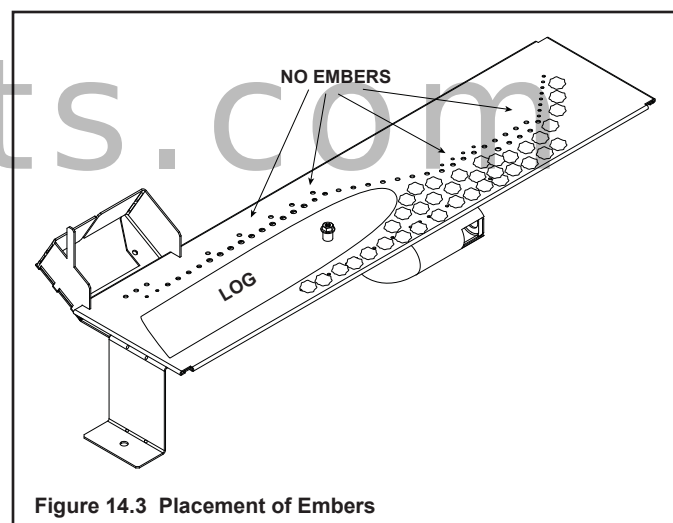

Figure 14.3 Placement of Embers
- When placing Glowing Embers® onto the burner care should be taken so that the ports are not covered. Place the dime-size ember pieces near the port holes in the burner top (see Figure 14.3). Failure to follow this procedure will likely cause lighting and sooting problems.